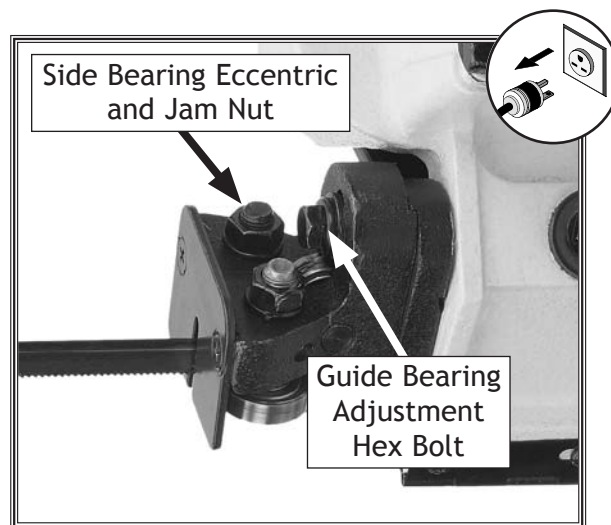

Figure 22. Blade guide adjustments.
3. Use a 12mm wrench to loosen the lower guide bearing adjustment hex bolt shown in Figure 22.